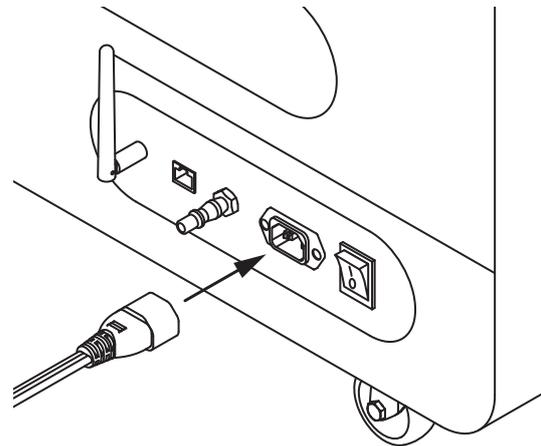

Fig. 2.1 Connecting the power cord to the power socket.
1. Connect the printer to power (fig. 2.1). Power socket is located on the back of the printer.